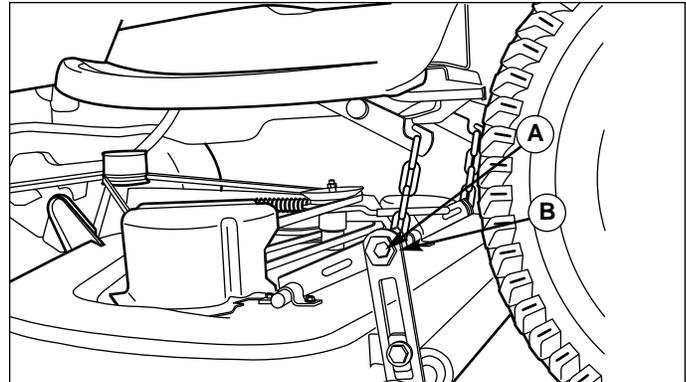

Figure 7. Leveling The Mower Side-to-Side Eccentric Nut Models
5. See Figure 7. Loosen the outside nut (A). Turn the eccentric nut (B) to raise or lower left-hand side of mower. When mower is level, hold the eccentric nut while tightening the outside nut.